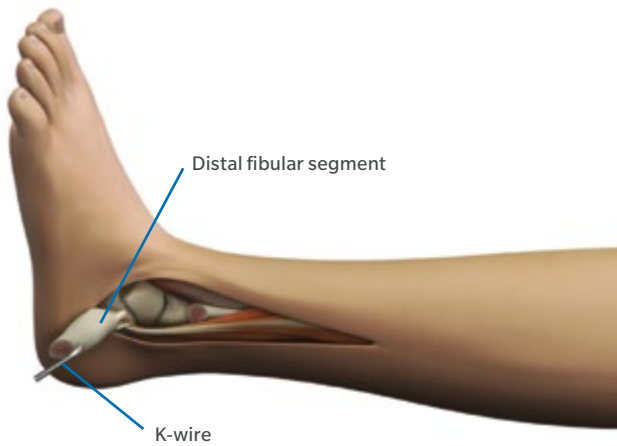

Fig. 6 Perform lateral incision and oblique osteotomy of the fibula, reflecting posteriodistally.
- Pin the fibula against the foot with a 1.6 mm K-wire (Fig. 6).